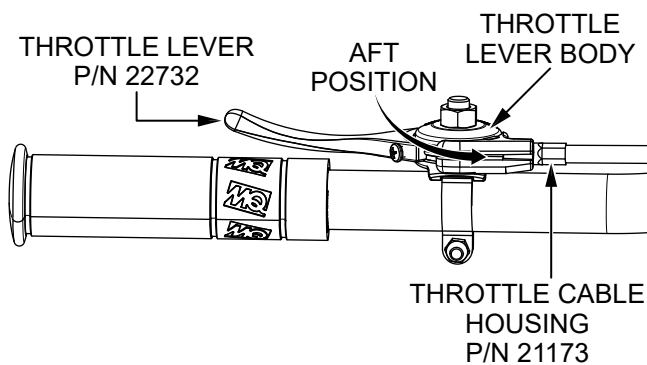

Figure 13. Throttle Lever (Aft Position)
13. Rotate the **throttle lever** (P/N 22732) counterclockwise to the aftmost position. See Figure 13.
15. Make sure the **throttle cable housing** (P/N 21173) is properly seated against the **throttle lever body**. See Figure 13.